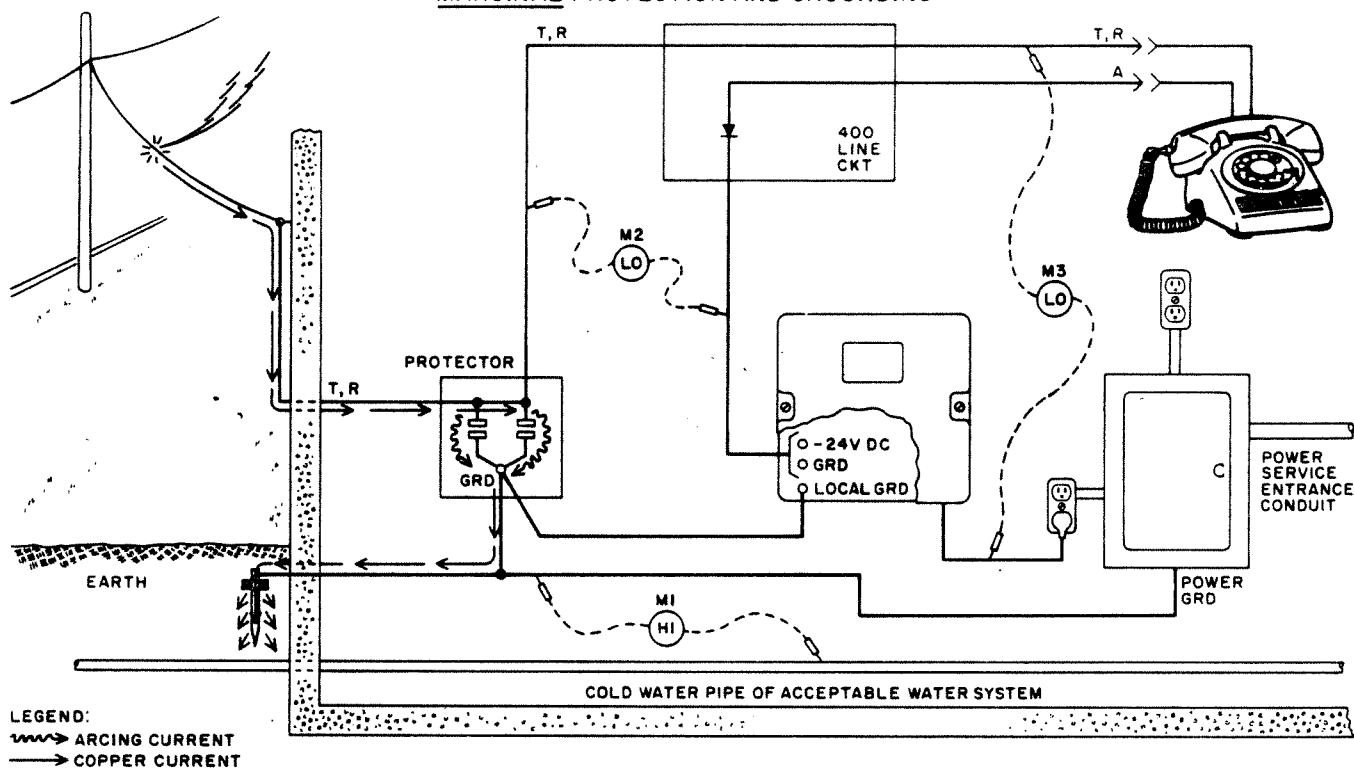

Fig. 10—All Grounds Bonded to Ground Rod
5.08 A ground rod is used to ground all system points in the installation shown in Fig. 10. This diagram illustrates how a ground, which is not the best available, can offer system protection as long as all grounds are connected to this point. Note, however, that high-voltage levels can develop between this system and the local water system (meter M1) or with respect to local building steel. Arcing could occur from some part of this installation to a nearby water pipe.